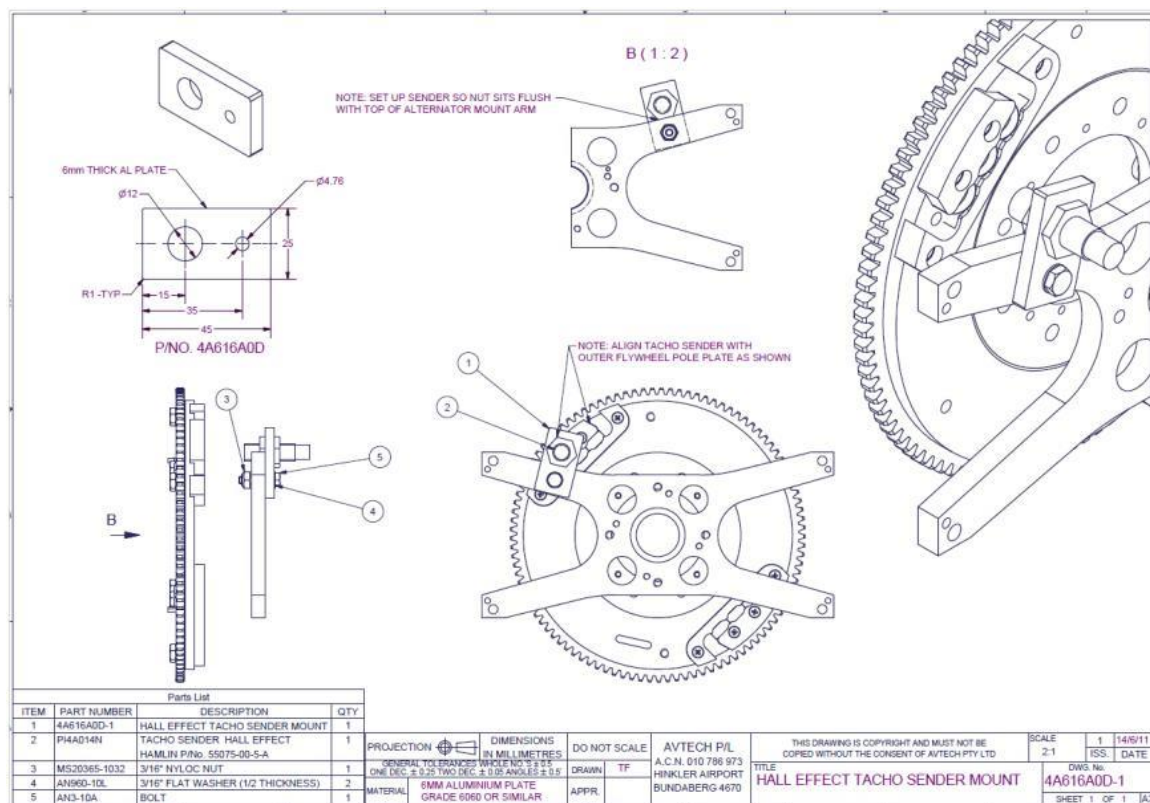

Figure 154 – Hall effect Tacho Sender
- Where the hall-effect type tacho sender is used (Figure 154) it must be installed during final assembly